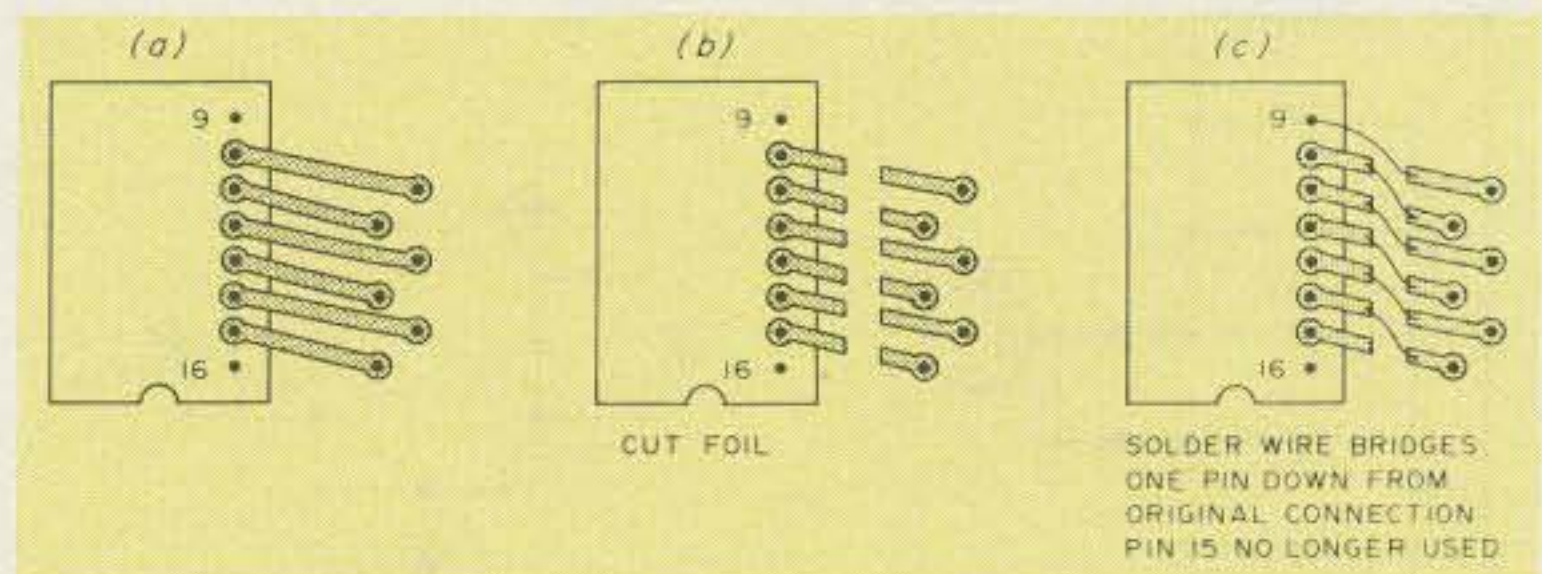

Fig. 4. Modifications to IC701 to obtain 20-kHz channel spacing.
1. Cut foil as shown in Fig. 4(a) and (b). This is done easily with a Dremel tool. Sand the varnish from the foil and solder wire bridges, as shown in Fig. 4(c).